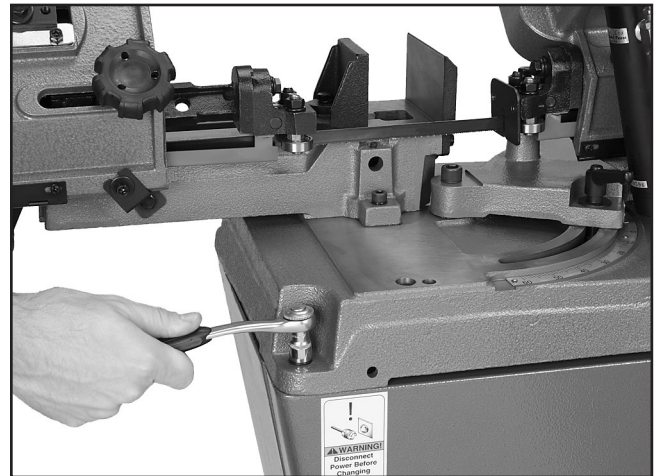

Figure 10. Attaching bandsaw to cabinet.
11. Secure the bandsaw to the cabinet with four M8-1.25 x 30 hex bolts and 8mm flat washers (see **Figure 10**).